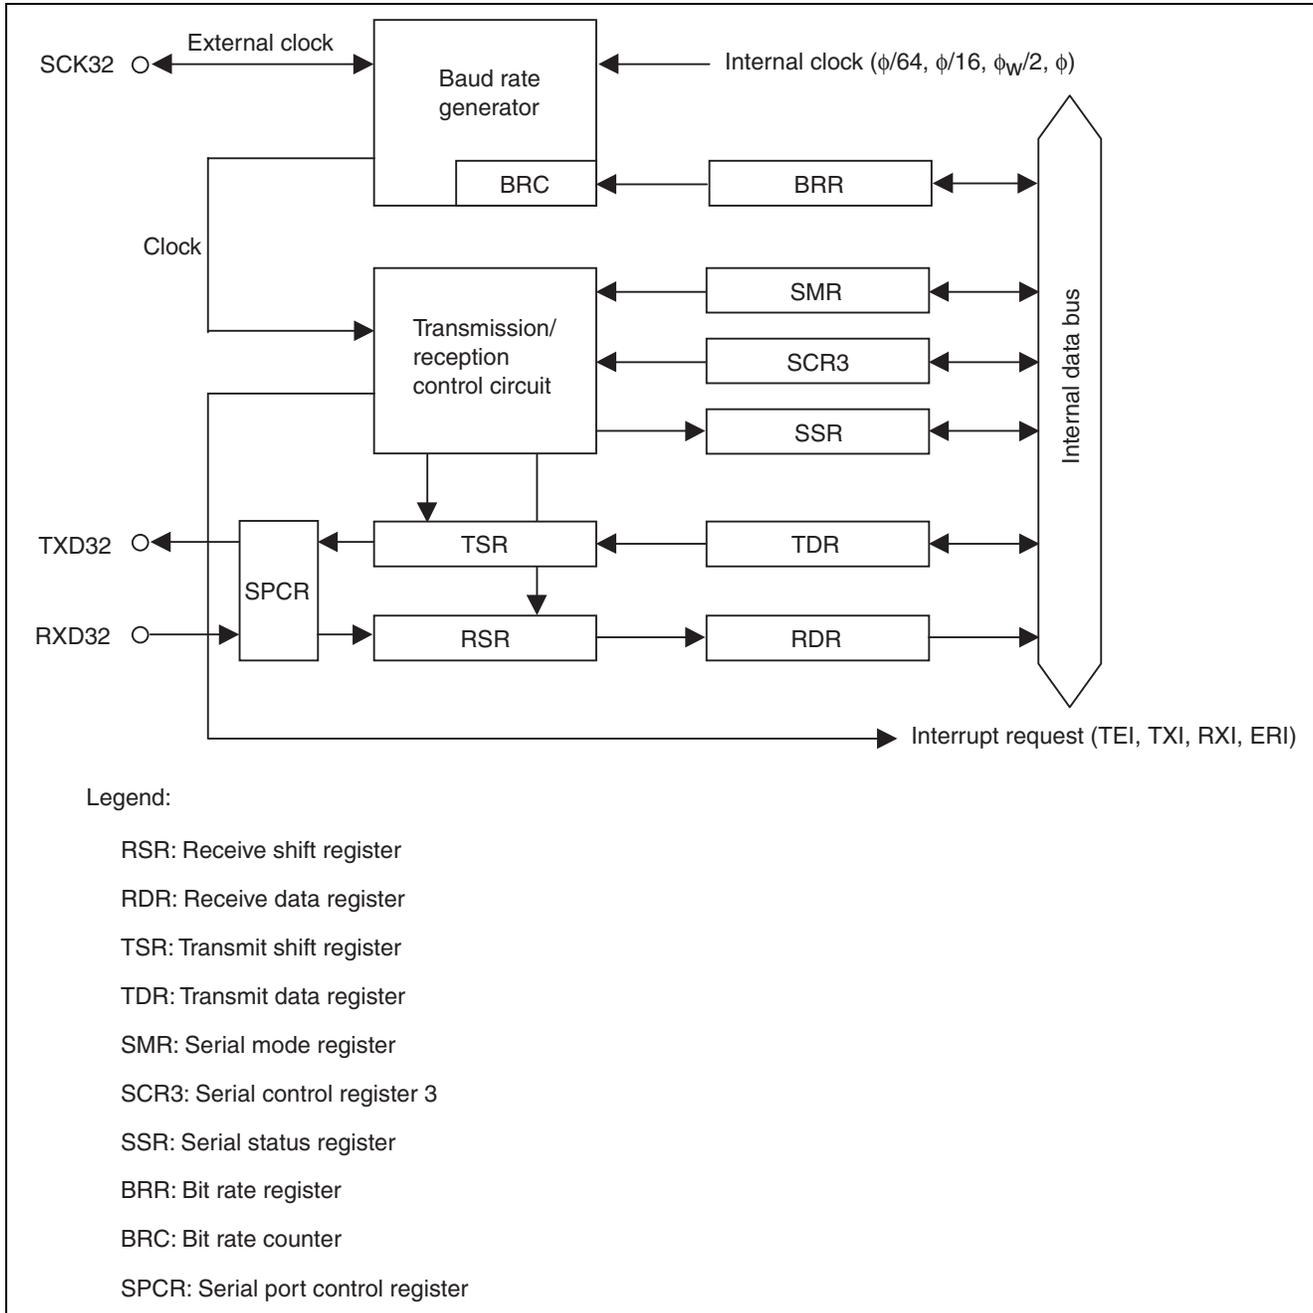

Figure 2 Block Diagram of SCI3
- In this sample task, clock synchronization serial data slave transmission is performed using Serial Communication Interface 3 (SCI3). A block diagram of SCI3 is shown in figure 2 and the functions are described below the figure.